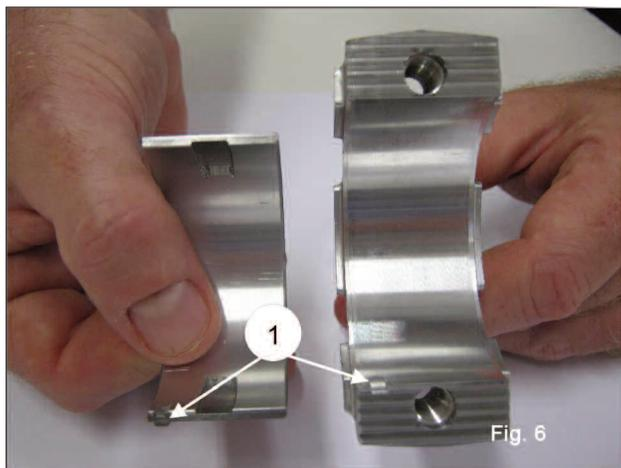

Fig. 6
**Make sure that the reference marks on the upper half-bearings (1, fig. 6) and lower half-bearings are positioned in their respective seats in the con-rod and cap.**